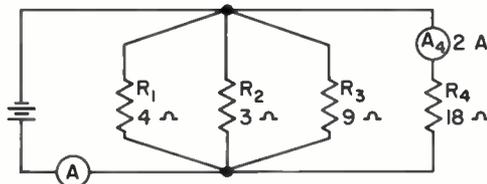

Fig. 10
1. Ammeter A in Fig. 10 reads _____ amperes.